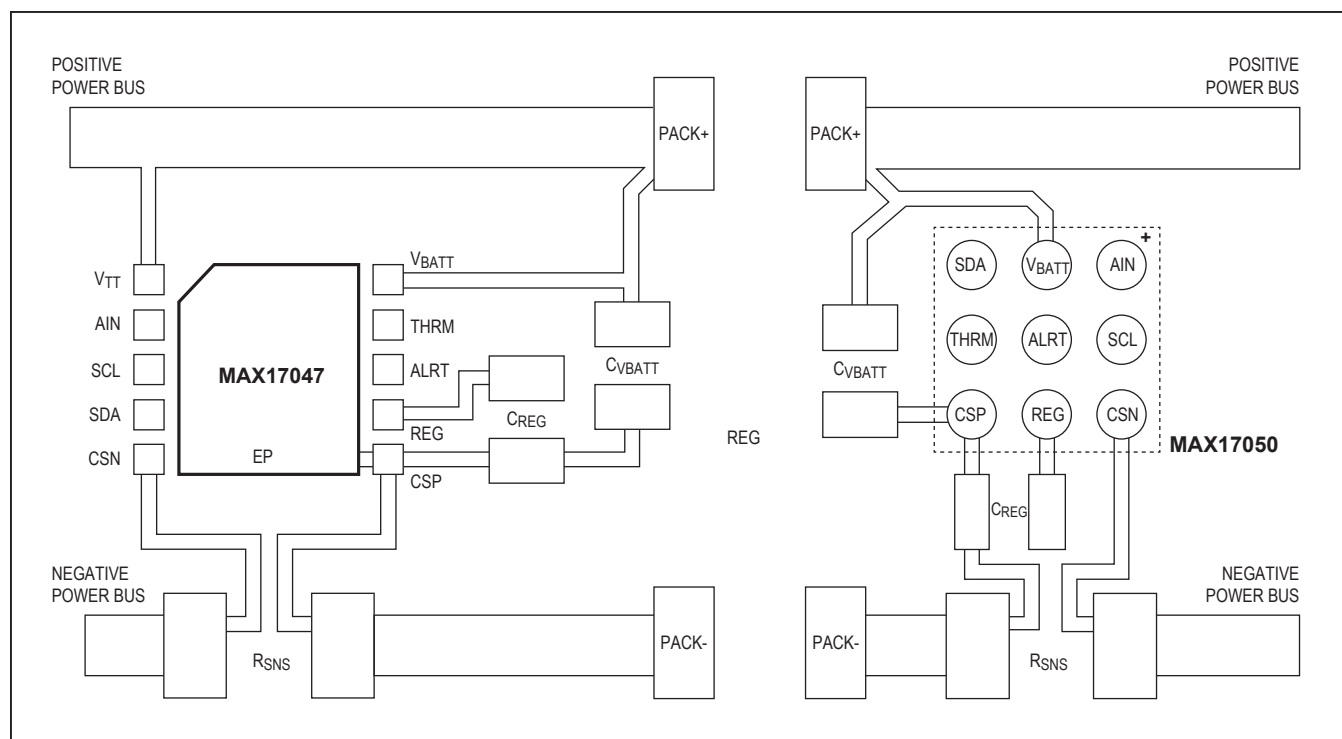

Figure 8. Proper Board Layout
Proper circuit layout (see Figure 8) is essential for measurement accuracy when using the MAX17047/MAX17050 ModelGauge m3 ICs. The recommended layout guidelines are as follows:
- Proper circuit layout (see Figure 8) is essential for measurement accuracy when using the MAX17047/MAX17050 ModelGauge m3 ICs. The recommended layout guidelines are as follows: